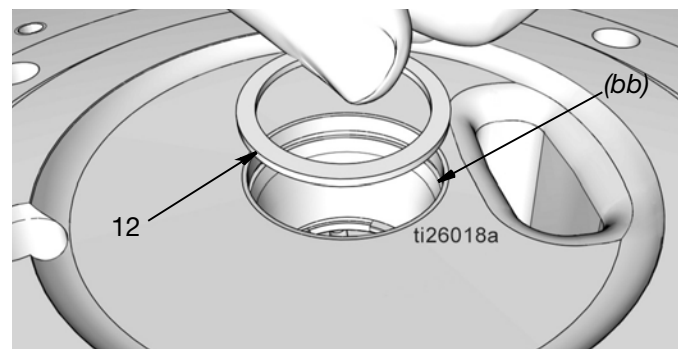

FIG. 31
- Verify retaining ring (51) is in place in side pump base (1).
- Install spacer (12) shown in FIG. 31.